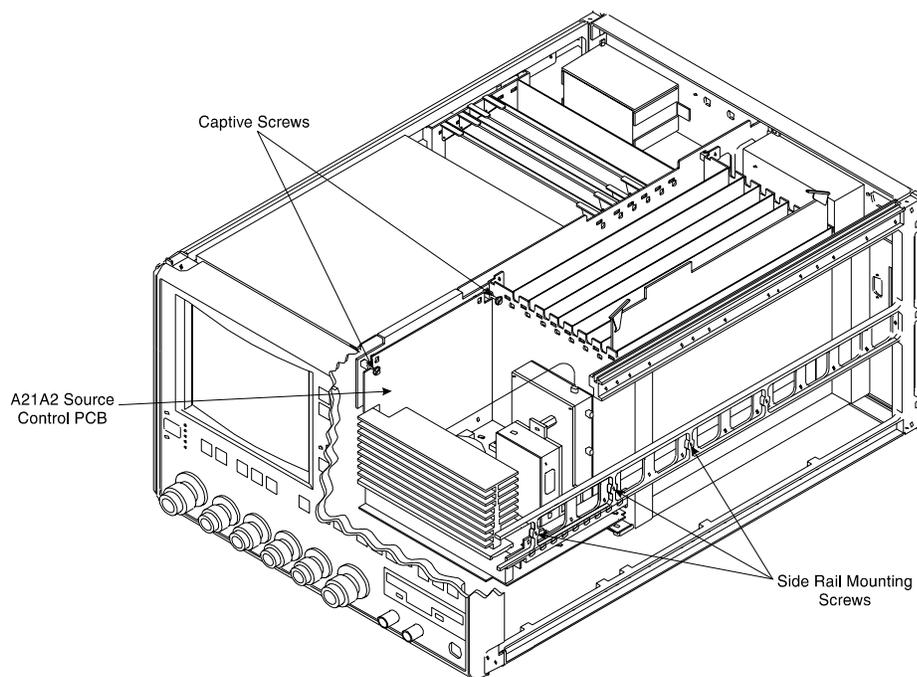

Figure 8-14. *Signal Source Module Removal Details*
- Step 7.** Remove the three screws that fasten the Signal Source Module to the chassis side rail. See Figure 8-14.
- Step 8.** Loosen the two captive screws that fasten the Signal Source Module to the chassis (Figure 8-14).